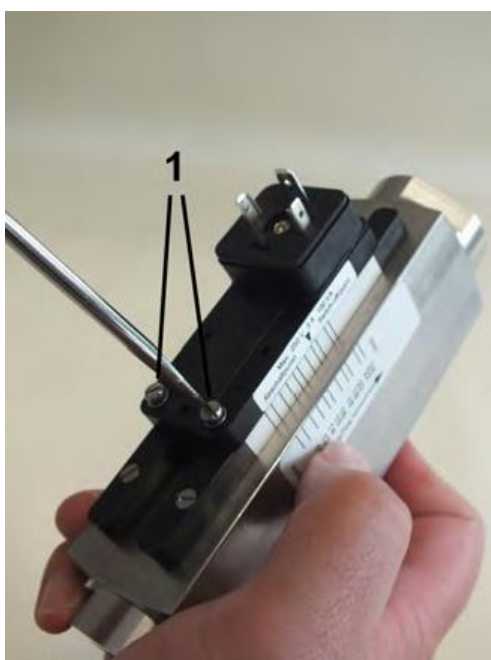

Fig. 32: Loosen the set screws
- 1.** ► Loosen the set screws of the switch contact (Fig. 32/1) using a flat-bladed screwdriver.
- 3.** ► Re-tighten the set screws of the switch contact (Fig. 32/1) using a flatbladed screwdriver. When doing so, observe the correct tightening torque of the screws.